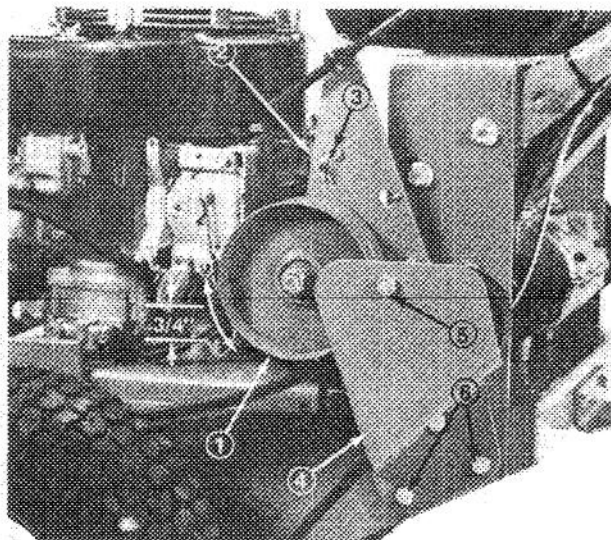

Figure 5
5. Check travel of idler pulleys when fully engaging wheel belts. Pulley travel should be approximately 3/4" (Fig. 5).
1. Clean area around fuel tank cap and remove cap from tank (Fig. 5).